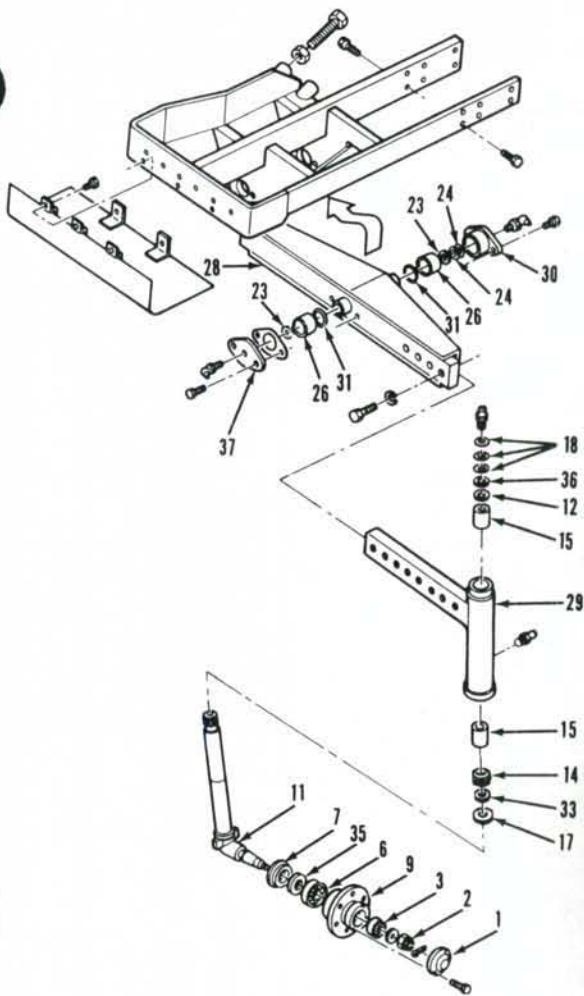
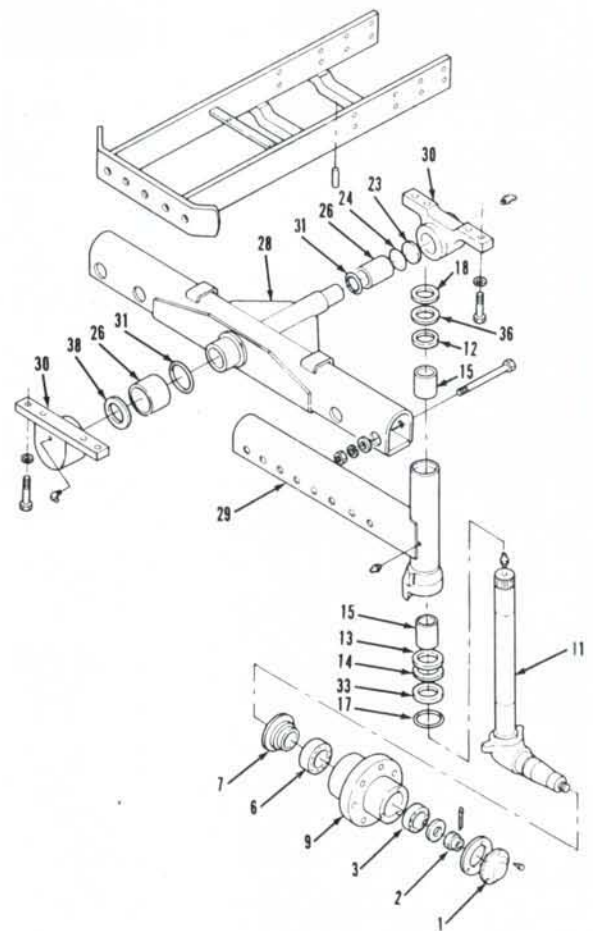

Fig. 5—Exploded view of adjustable front axle assembly used on 1710 Offset tractors. Refer to Fig. 3 for legend except for the following:
Fig. 6—Exploded view of adjustable front axle used on Model 2110.
1. The front axle may be fixed tread width type or adjustable type for 1100, 1110, 1200, 1210, 1300, 1310, 1500 and 1510 models as shown in Figs. 1, 2 and 3. The adjustable axle used on 1700, 1710, 1900 and 1910 models is shown in Fig. 4. Adjustable axle used on 1710 Off-set tractor is shown in Fig. 5, and adjustable axle used on 2110 tractor is shown in Fig. 6.